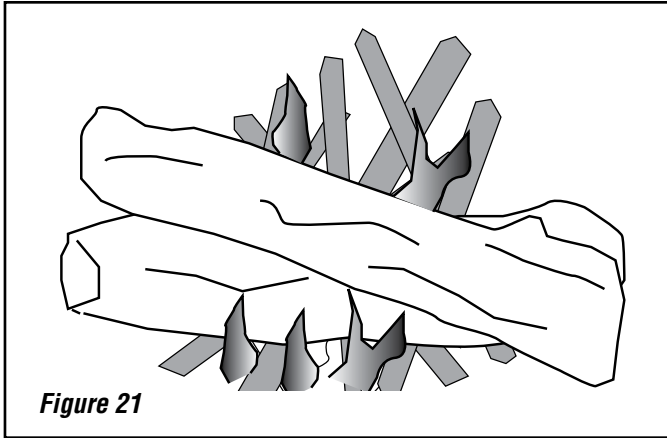

Figure 21
7. For best results, use smaller pieces of wood to get the appliance temperature very high before loading larger wood for sustained burns. If necessary, crack the door to allow ignition of the fuel charge. Do not leave the unit unattended while the front door is slightly open. Now you can add larger pieces of wood and after several minutes of high burn, set the left control for the desired heat output. Check the exhaust in about 15 to 20 minutes (see **Figure 21**). Large amounts of smoke indicate an improper burn setting (either too high or too low). Adjust and recheck in 5 to 10 minutes.